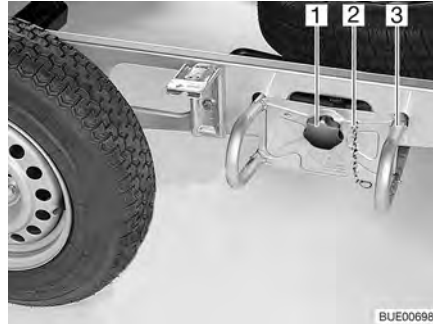

Fig. 221 Spare wheel support
- Unhook the safety chain (Fig. 221,2).
- Loosen and unscrew the star handle (Fig. 221,1).
- Pull out the spare wheel support (Fig. 221,3) about 10 cm and place it on the ground.